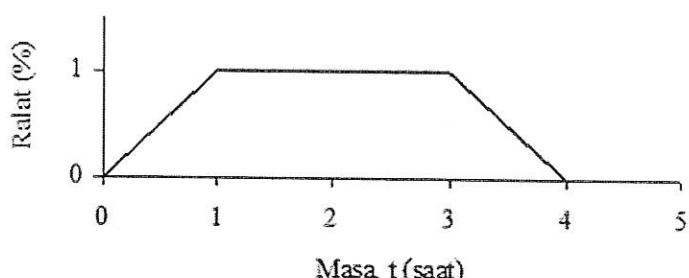

Figure Q2(d)
- c) Figure Q2(d) represent a proportional-integral controller ( P + I ) with constants of  $K_p = 5.0$ ,  $K_I = 1.0 \text{ sec}^{-1}$ , and  $P(0) = 20\%$ .